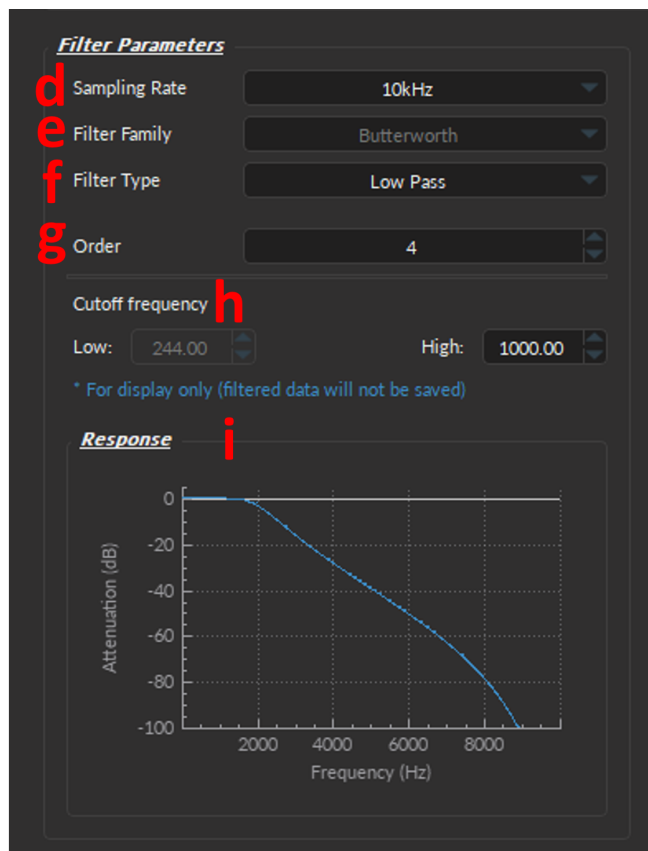

Figure 16.69: Filters, Filter Parameters
- d) The **Sampling Rate** (Fig. 16.69, d) specifies the number of data points per second that are saved in the .doric file. The **Sampling Rate** can range between 10 Hz - 50 kHz. Reducing the **sampling rate** here reduces the file size and is equivalent to decimating the data as it does not affect the true acquisition sampling rate. Only the filtered (and not the raw **Analog In**) channel is decimated.
- e) The **Filter Family** (Fig. 16.69, e) always corresponds to the *Butterworth* filters, which are ideal signal processing filters since they are designed to have a flat frequency response in the bandpass.
- f) The **Filter Type** drop-down (Fig. 16.69, f) offers four filter choices, including **High-Pass**, **Low-Pass**, **Band-Pass**, and **Band-Stop** filters.
- g) The **Order** (Fig. 16.69, g) specifies the number of cascaded stages within the *Butterworth* filter, such that the higher the order number, the closer the filter is to the ideal *brick wall* response.
- h) The **Cut-off Frequency** (Fig. 16.69, h) defines the low/high cutoff values for the filter, depending on the type used. The **Cutoff Frequency** must be less than half of the **Sampling Rate**. Note: the true cutoff value is, by definition, always 3 dB below (Low Cutoff) or above (High Cutoff) the specified value.
- i) The **Response Graph** (Fig. 16.69, i) displays the Frequency (Hz) vs Attenuation (dB) trace of the filter according to both the filter type and the cutoff values.